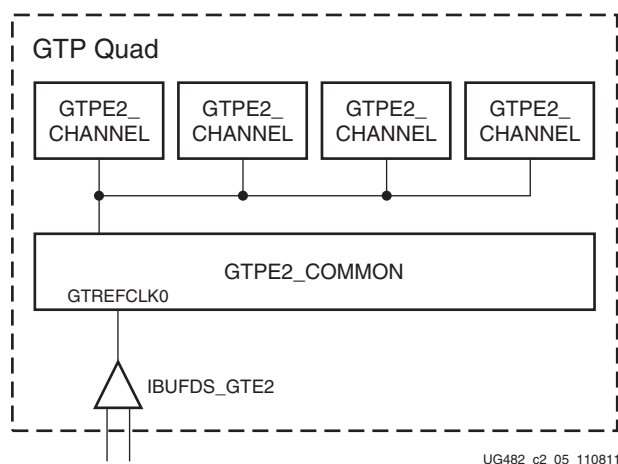

Figure 2-5: Single GTP Quad with a Single Local Reference Clock
In the single external reference clock use model, the user connects the IBUFDS_GTE2 output (O) to the GTREFCLK0 input port of the GTPE2_COMMON primitive. The user design can leave the other unused reference clock ports floating. The IBUFDS_GTE2 input pins can be constrained in the user constraints file (UCF). Figure 2-5 shows a single GTPE2_COMMON primitive connected to a single IBUFDS_GTE2 primitive.